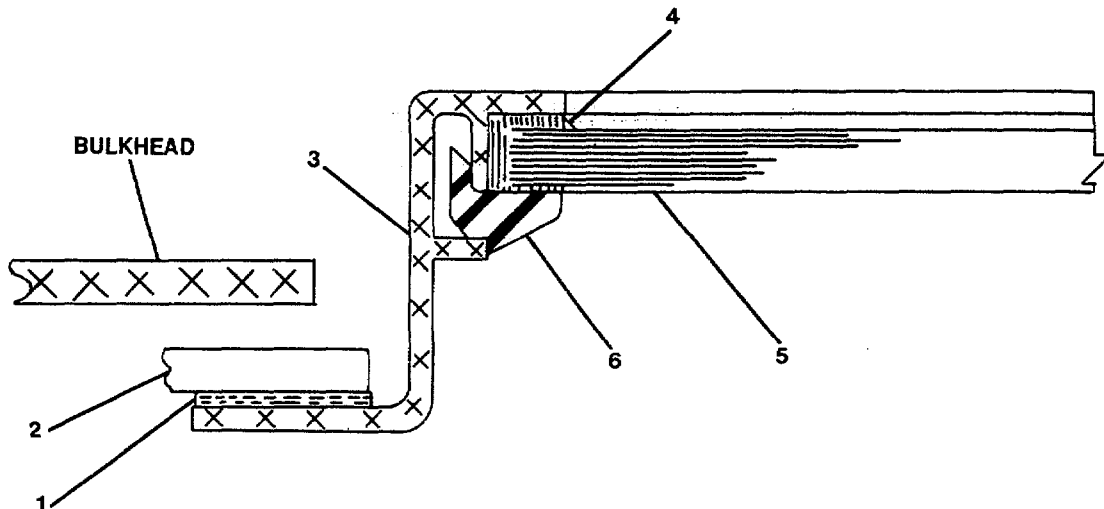

FIGURE 3-182. Repair Fixed Window, Right/Left-Hand.
- a. Clean off old sealant adhesive (1, Figure 3-182) and sealing tape (2) from around bulkhead opening.
- b. Remove glazing gasket (6) from window frame (3).
- c. Carefully remove (heat treated) window glass (5) from window frame (3).